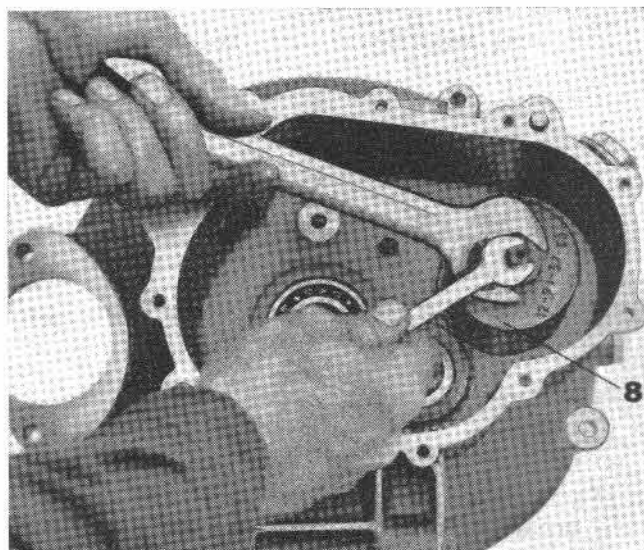

Fig. 79
- Ball bearing for layshaft, using puller No. 12913700 (see 8 on Fig. 79).